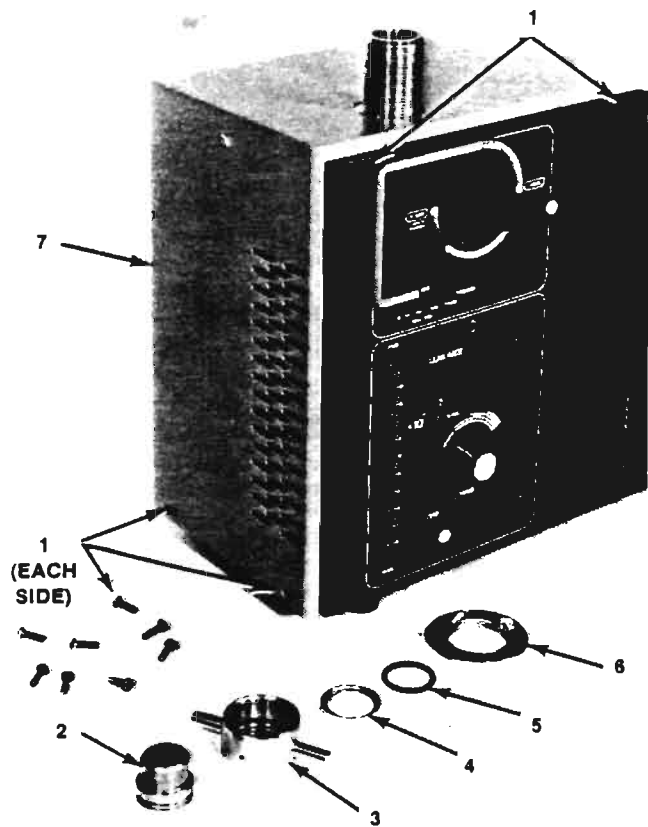
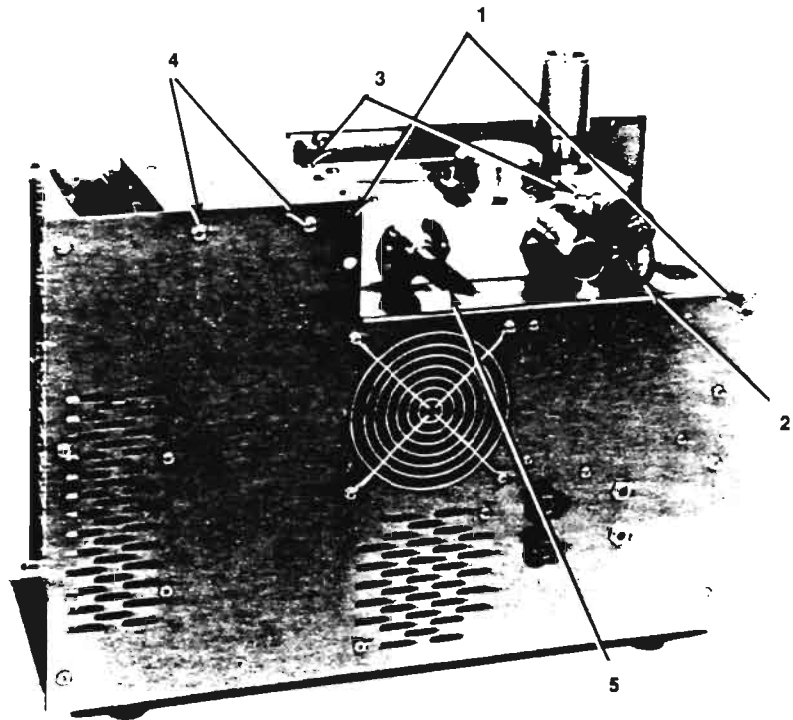
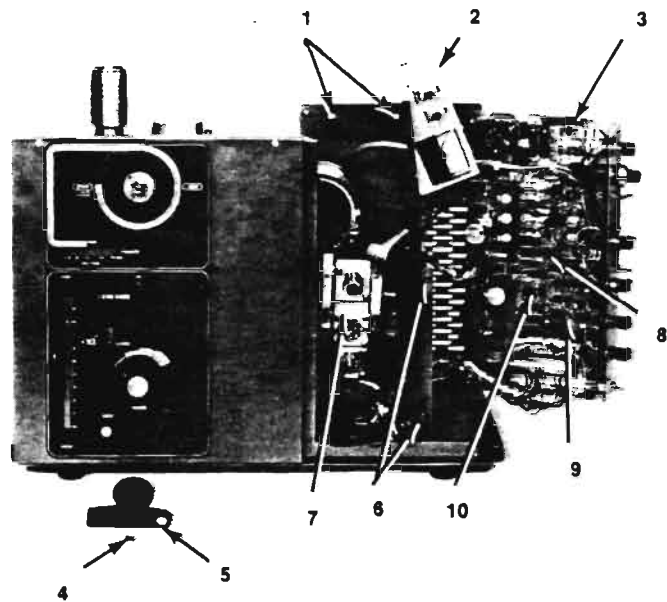
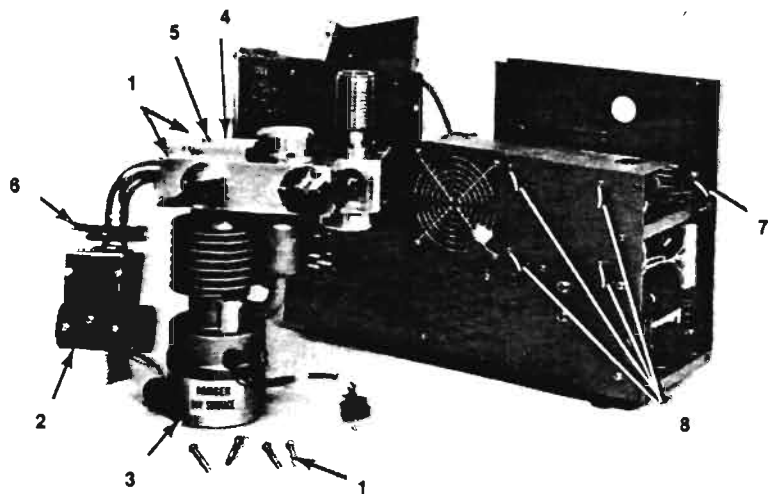

Fig. 4-2. Test Port Components Removed
Fig. 4-3. Rear View of Leak Detector, Cover Removed
Fig. 4-4. Leak Detector With Cover Removed and Main Electronics Assembly Swung Open
Fig. 4-5. Valve Block, Diffusion Pump, and Spectrometer Tube Removed From Cabinet
8. Remove test port cap (3, Fig. 4-2), O-ring, (5), O-ring follower (14), and test port nut (6).
9. Remove eight screws (1, Fig. 4-2) and (1, Fig. 4-3) that hold cover assembly (7, Fig. 4-2) to chassis and front panel. Slide cover assembly up and off unit.
10. Remove operating handle (5, Fig. 4-4) after first removing screw (4).
1. Remove two screws (6, Fig. 4-4) and swing main electronics assembly (3) all the way to the right.
2. Remove two screws (4, Fig. 4-3) behind high voltage enclosure (2, Fig. 4-4) and then swing enclosure clockwise (upward) to the 90-degree position.
3. Remove three electrical plugs at top of spectrometer tube (7). Then unplug the spectrometer tube heater.
5. Remove four screws (3, Fig. 4-3) at corners of valve block. (Screws are #10-32 x 2½" long.)
6. Disconnect thermocouple gauge electrical cord (2).
7. With front panel pulled forward, lift valve block assembly out of leak detector, with diffusion pump and spectrometer tube intact (Fig. 4-5). Take care not to hit any electrical components, and be especially careful of the diffusion pump thermostat.
8. Disconnect diffusion pump (3) from valve block assembly (4) by removing three 2-inch long screws (5).
9. Disconnect spectrometer tube by removing KF flange (6). You now have three separate assemblies: valve block, diffusion pump, and spectrometer tube.
1. Reconnect diffusion pump to valve block assembly, using three 2½" long screws (5, Fig. 4-5).
3. Bolt valve block assembly to cabinet, using four 2½" long screws (3, Fig. 4-3).
9. Swing high-voltage enclosure (2, Fig. 4-4) downward, then secure with two screws (1).
10. Swing the main electronics assembly (3, Fig. 4-4) inward and secure with two screws (6).
11. Attach cover assembly to chassis and front panel, using eight screws (1, Fig. 4-2).
12. Reassemble test port cap (3, Fig. 4-2), O-ring (5), O-ring follower (4), and test port nut (6).
3. Verify that service valve (5, Fig. 4-3) is in operating position (backed off about $\frac{1}{8}$ turn from fully in clockwise position).
3. Remove three electrical plugs at top of spectrometer tube (Fig. 4-4). Unplug spectrometer tube heater.